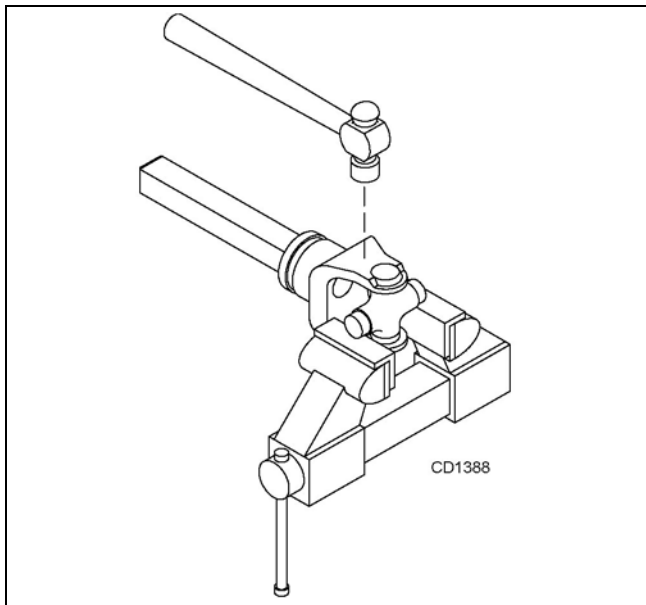

Figure 26. Remove Cups
4. Place universal cross in vise as shown in Figure 26 and tap on yoke to remove cup. Repeat Step 3 for